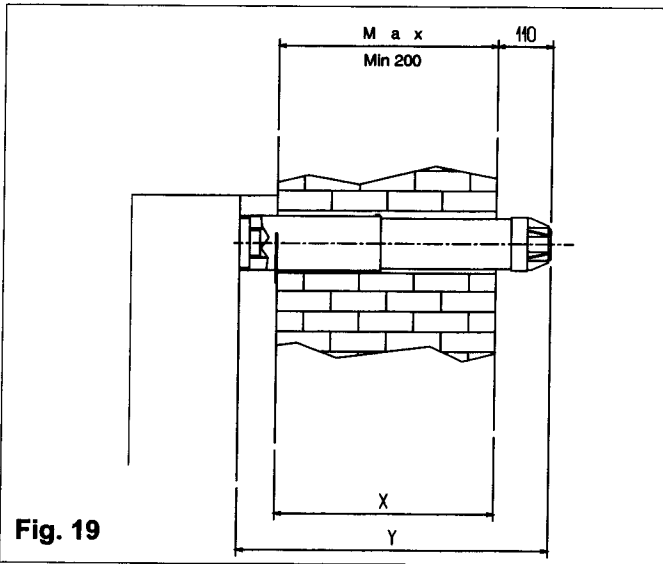
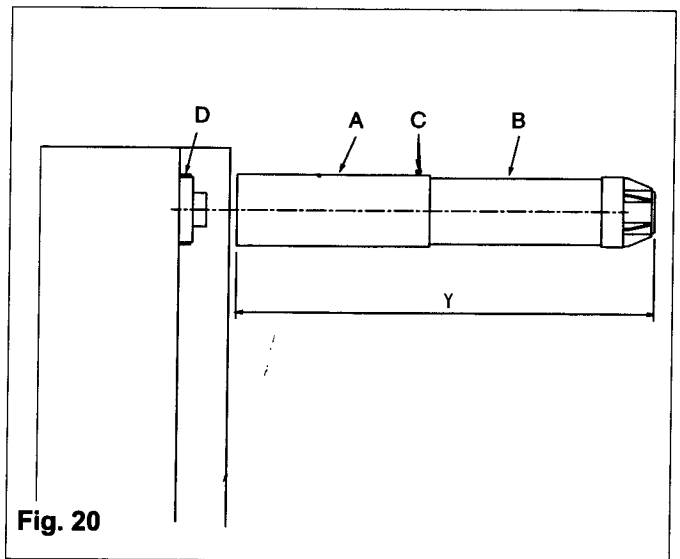

Fig. 19
Fig. 20
11.1 FITTING THE FLUE (see fig. 19)
Carefully measure the thickness of the wall (dimension x - fig. 19). Take the outer concentric flue pipe (A) and – using a twisting action – ease it over the inner concentric flue pipe (B) (see fig.20). Add 210 mm to 'x' to give you dimension 'y'. Push both the inner and outer concentric flue pipes together until the total length of the flue assembly is equal to dimension 'y'. Secure the flue assembly in place by using the screw provided (C).
Pull the flue assembly firmly towards and over the appliance flue spigot (fig. 20 a) and – using a twisting action – ensure the correct seal is made. Insert the locking collar (E) into the groove on the flue assembly as shown in fig.20 a and rotate to conceal.